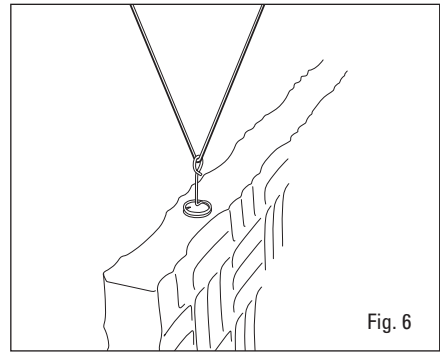
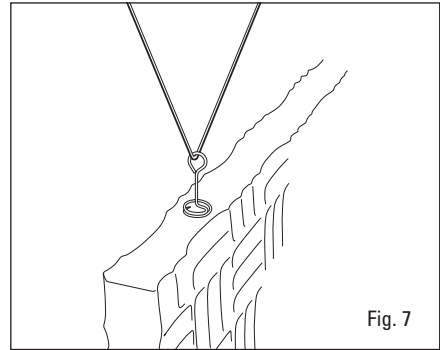

Fig. 6
Fig. 7
- C3. If installing SONEX® Valuline Baffles, slip the eye loop of the corkscrew over the cable (Figure 6). Turn the eye loops approximately ¼ turn counterclockwise so the eye loop is perpendicular to the baffle, locking the cable in place (Figure 7).